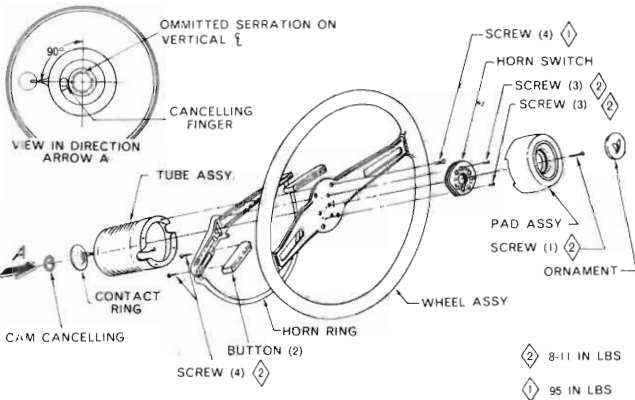

Fig. 1 – Steering Wheel Assembly Components (Typical Dissassembled View)
- (4) Disconnect the directional signal, and horn-wires.
- (5) Remove the centre pad assembly retaining screws and lift off pad.
- (6) Disconnect the horn wire from switch and remove the three switch retaining screws, if necessary (*Refer. Fig. 1*).
(1) Insert the column and jacket tube assembly through the floor pan opening, being careful not to soil or damage the headlining.
(2) Position the clamp on the coupling and with the master splines on the wormshaft and coupling aligned, engage the column coupling with the steering gear wormshaft.
(3) Loosely fasten the steering column jacket to the instrument panel bracket with the clamp and the two attaching screws.
(4) With the steering shaft coupling clamp in position on the coupling assembly, install a new roll pin so that it engages the groove in the wormshaft.
(5) With the coupling centred, tighten the column jacket to instrument panel clamp bolts to 15 lbs./ft. torque.
(6) Push the floor plate down to contact the toe board, and start the floor plate to toe board attaching bolts, leaving them just loose enough so the floor plate can be shifted to align the lower end of the column jacket.
(7) Visually check to be sure the lower end of the column jacket and shifter tube assembly is concentric with the steering shaft. If they are not concentric, shift the floor plate to a position where it holds the column jacket and shift tube assembly concentric with the steering shaft and tighten the floor plate to toe board attaching screws to 25 lbs./in. torque.
(8) Recheck the lower end of the column jacket and shift tube assembly to ensure that they have remained concentric with the steering shaft after tightening the attaching screws.
(9) Slide the steering column lower seal up to the bottom of the column jacket, and force the outer lip of the seal into position around the flanged lower end of the column jacket and shift tube assembly.
(10) With the master splines in the steering tube assembly and steering shaft aligned, place the steering tube assembly on the steering shaft, *Fig. 1.*
(11) Install the steering tube assembly retaining washer and nut. Tighten the retaining nut to 24 lbs./ft. torque.
(12) Install the horn switch and horn ring previously removed from the steering wheel, tighten screws to 8-11 lbs./in. torque (where removed).
(13) Attach the steering wheel assembly to the collapsible steering tube using four special screws and torque to 95 lbs./in.
(14) Re-connect the horn wire to switch.
(15) Install the centre pad, tightening the screw to 8-11 lbs./in. torque.
(16) Install the ornament to the wheel centre pad.